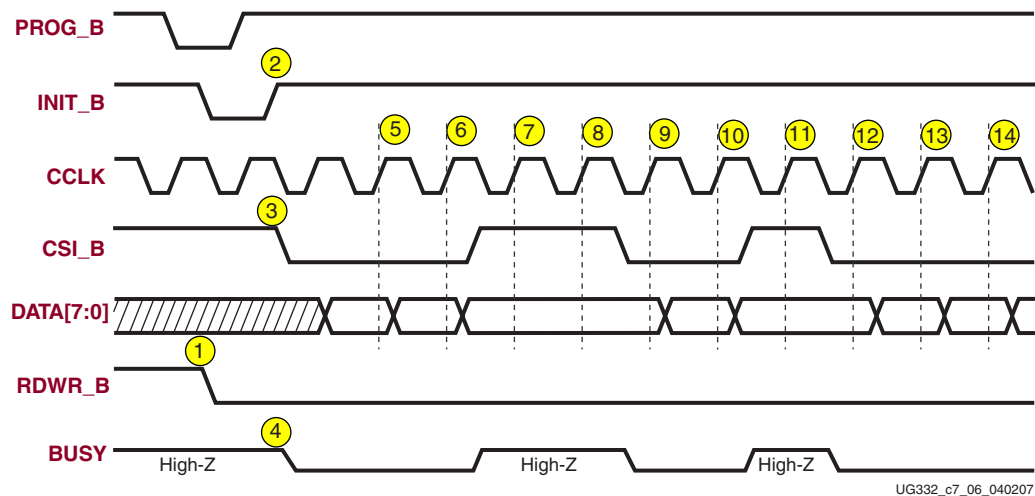

Figure 7-6: SelectMAP Non-Continuous Data Loading with Controlled **CSI_B**
1. Deassert the **CSI_B** signal with a free-running **CCLK**, shown in Figure 7-6 and described in “Deasserting **CSI_B**,” page 185.
The following numbered items correspond to the markers provided in Figure 7-6.